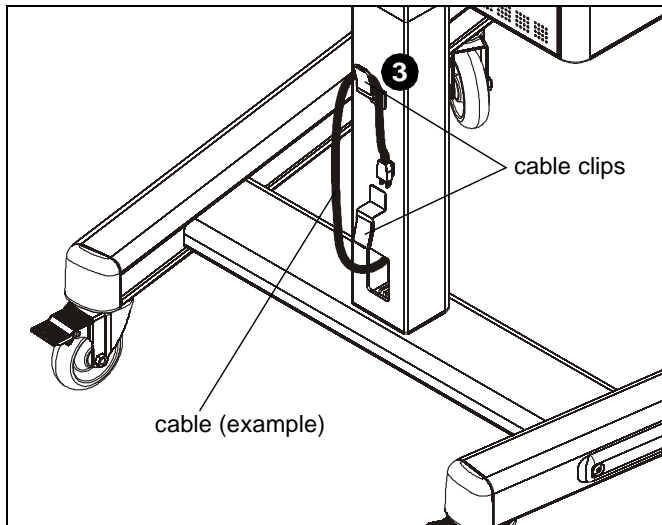

Figure 17
3. Use cable clips on column to hang cables as needed when moving cart. (See Figure 17)